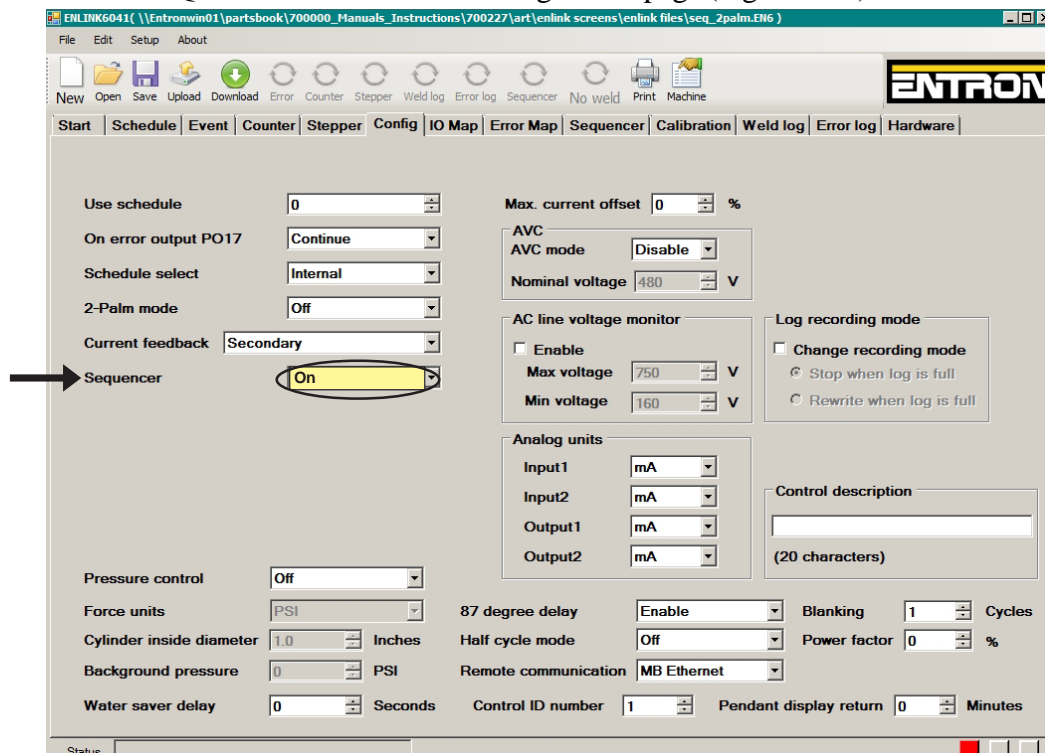

Figure 9-36. Configuration page
B. Enable SEQUENCER function on Configuration page (Figure 9-36).